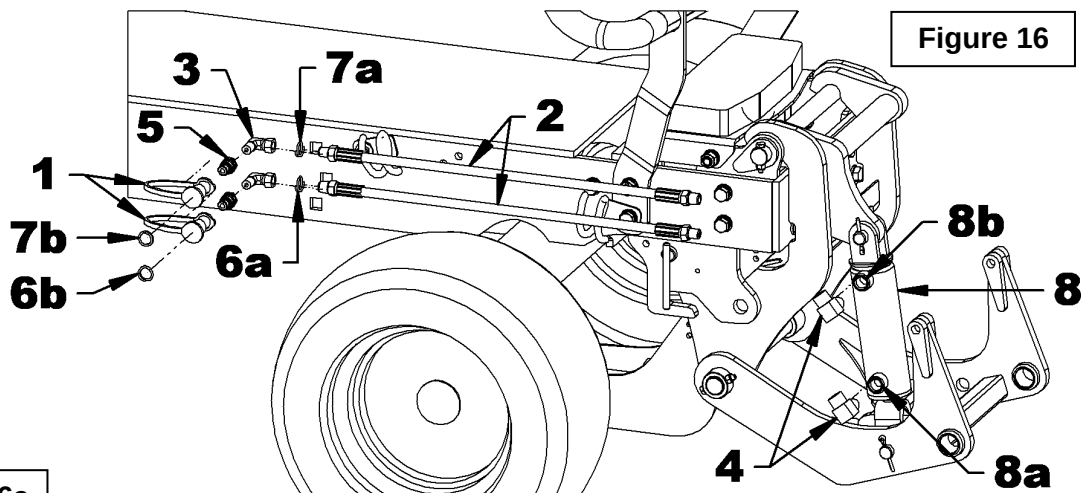
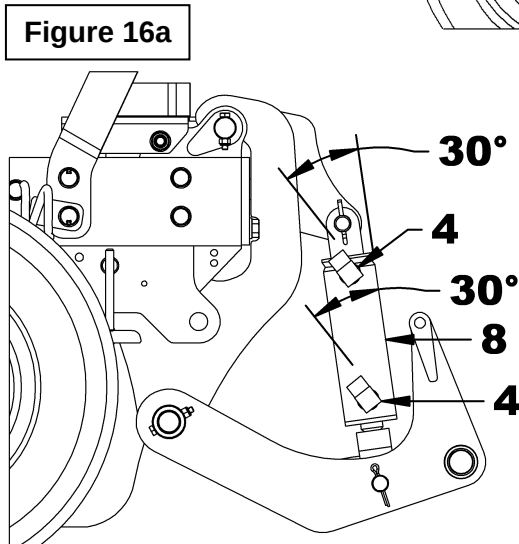

Figure 16
Figure 16a
1. Gather all the items 1 to 8 listed in the table in figure 16.
2. **Figure 16 and 16a:** Apply thread sealant (Teflon tape) to the male threads of the two female 90° elbows $\varnothing 3/8$ " NPT male x $\varnothing 3/8$ " NPT (item 4), and screw on the ports of the hydraulic $\varnothing 2$ " x 5" cylinder (items 8a and 8b) by positioning the elbows as shown on figure 16a.
3. **Figure 16:** Apply thread sealant (Teflon tape) to the male threads $\varnothing 3/8$ " NPT of the two hydraulic hoses $\varnothing 1/4$ " x 64" lg (item 2) and screw the two hoses (item 2) on the two elbows (item 4) fixed to the cylinder (item 8).
4. **Figure 16:** Fix the two 90° F elbows $\varnothing 1/4$ " NPT M/Sw. (item 3) on the two hydraulic hoses (item 2).
5. **Figure 16:** Apply thread sealant (Teflon tape) to the $\varnothing 1/4$ " NPT male threads of the two 90° $\varnothing 1/4$ " NPT M/Sw. F elbows (item 3), insert the blue and red identification rings (items 6a and 7a), the dust caps (item 1) and screw the two male $\varnothing 1/4$ " NPT quick couplers (item 5). The blue identification ring must be associated with the lower hydraulic supply port of the cylinder (item 8a) and the red identification ring must be associated with the upper port of cylinder (item 8b).